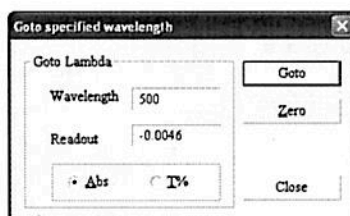

Fig. 4-1
1. Click  on the toolbar, appears **Goto specified wavelength** form (Fig. 4-1).